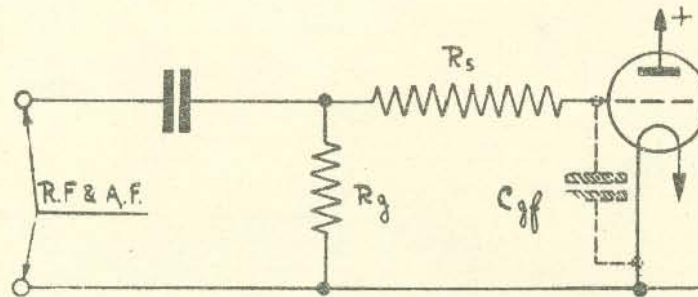

FIG. 45.—Grid stopper.
11. Grid Stoppers.—It is essential to prevent R.F. voltages from appearing in the A.F. stages, and a "grid stopper" following the detector valve does this efficiently (see fig. 45 where R_s is the grid stopper). It works in conjunction with the grid-filament capacity (C_{gf}) of the valve. If R_s is 1 megohm and is in series with C_{gf} across the R.F. and A.F. supply, then :—